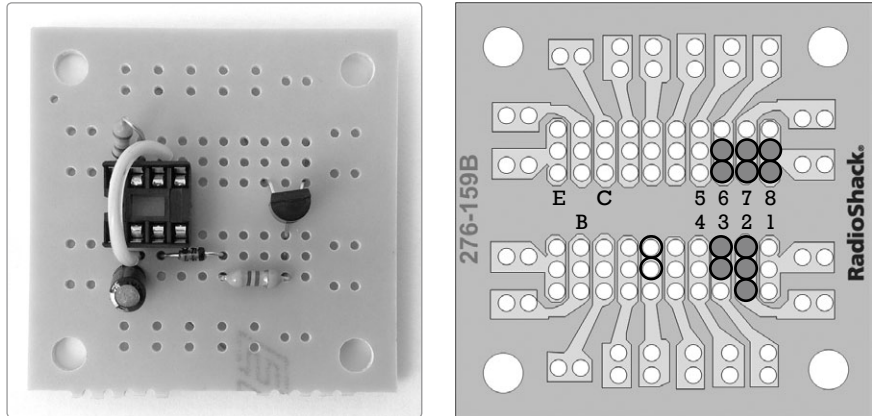

FIGURE 13-12: *Placing the 470 ohm fade-in resistor*
Step 12 Next up is the 470 ohm resistor (yellow-violet-brown stripes). This resistor contributes to the fade-in time of the LED when the waveform is set to pseudo-sine. It runs from the negative leg of the diode to the transistor base, as shown in Figure 13-12. Bend the resistor into a U shape, insert one leg into the first hole immediately below the diode's negative leg, and insert the other into the second open hole below the